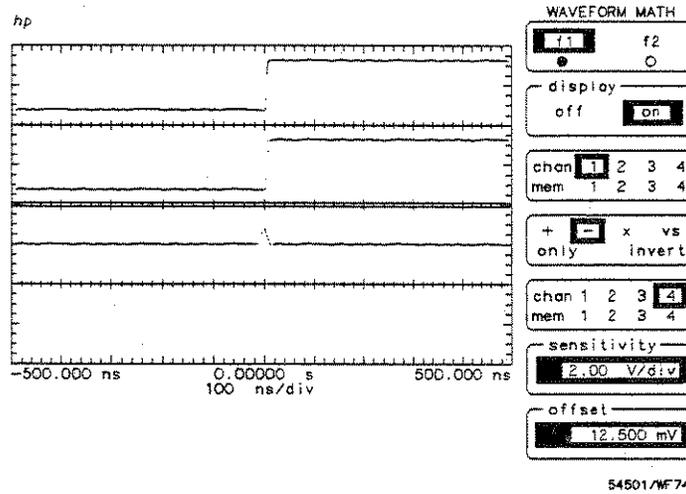

Figure 9-5. Channel 1 minus Channel 4
- Press TIMEBASE and set the horizontal display to 50.0 ns/div (see Figure 9-5).